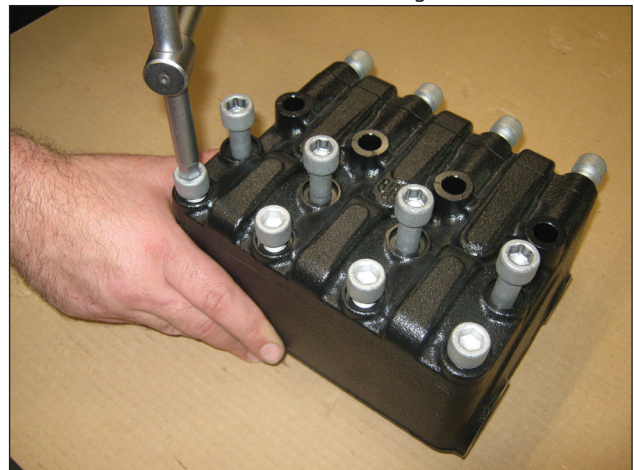
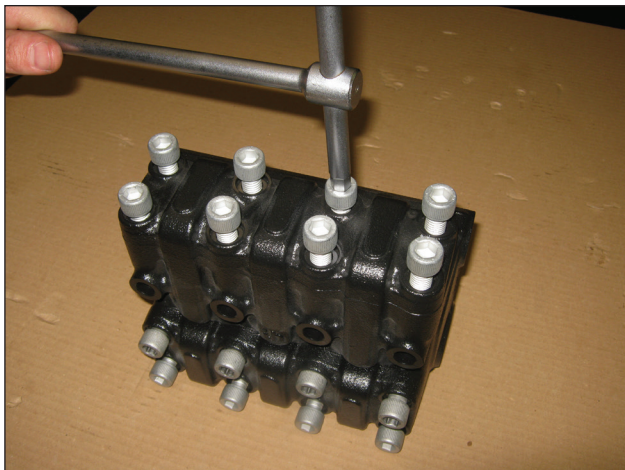

Fig. 16
Fig. 17
- Unscrew the 4 M12x130 and 4 M12x45 suction valve cover fixing screws and the 8 M12x35 outlet valve cover fixing screws (Fig. 16 and Fig. 17);